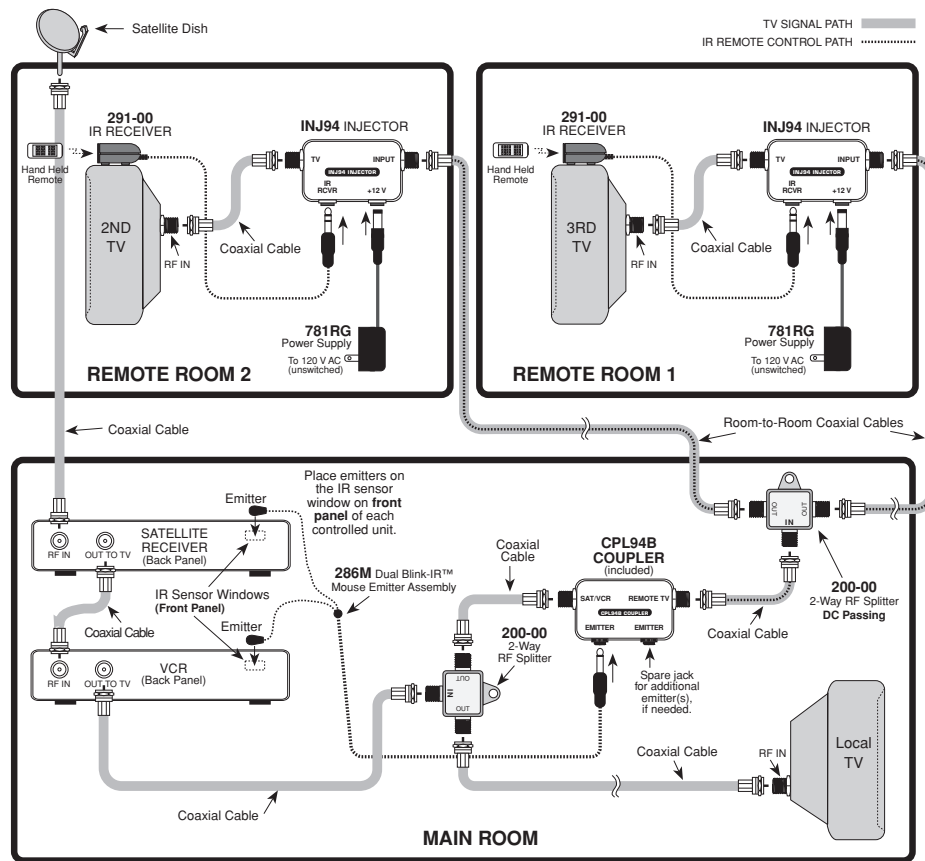

Fig. 3 A Typical 3-Room System
FIG. 3 illustrates a typical installation using two INJ94's and a CPL94B in a three room system.
2. When configuring multiple rooms, be sure the RF splitters used are DC passing types, such as Xantech Models 200-00 (2-way) and 202-00 (4-way). Refer to **Figs. 3** and **4**.